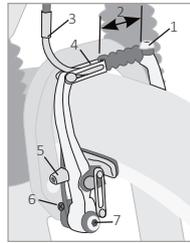
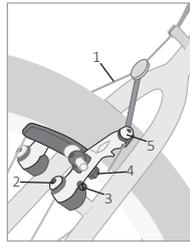
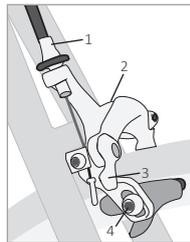

FIGURE 3.21
FIGURE 3.22
FIGURE 3.23
- **Rim brake:** brake pads apply pressure to the rim. The pressure is controlled with a hand lever that is connected to the brake by a cable. Examples include direct-pull or V-type brakes (Figure 3.21), cantilever brakes (Figure 3.22), and road or caliper brakes (Figure 3.23).
- For most direct-pull (Figure 3.18) or cantilever (Figure 3.21) systems the barrel-adjuster is on the lever. For most road
caliper systems (Figure 3.22) the barrel-adjuster is on the brake itself.
1. Turn the center-adjust screw (Figure 3.18 or Figure 3.21) in small increments.
- For most road calipers, lift the brake release lever (Figure 3.22) to the UP position. To close, turn the lever to the DOWN position.
- For cantilever brakes, release the linkwire (Figure 3.21). With one hand, push the brake-pads fully against the rim. With the other hand, pull the lead end of the linkwire from the fork on the brake-arm. Release the brake-pads.
1. Loosen the brake-attachment bolts (Figure 3.22).
1. Turn the fixed-pad adjuster (Figure 3.23).